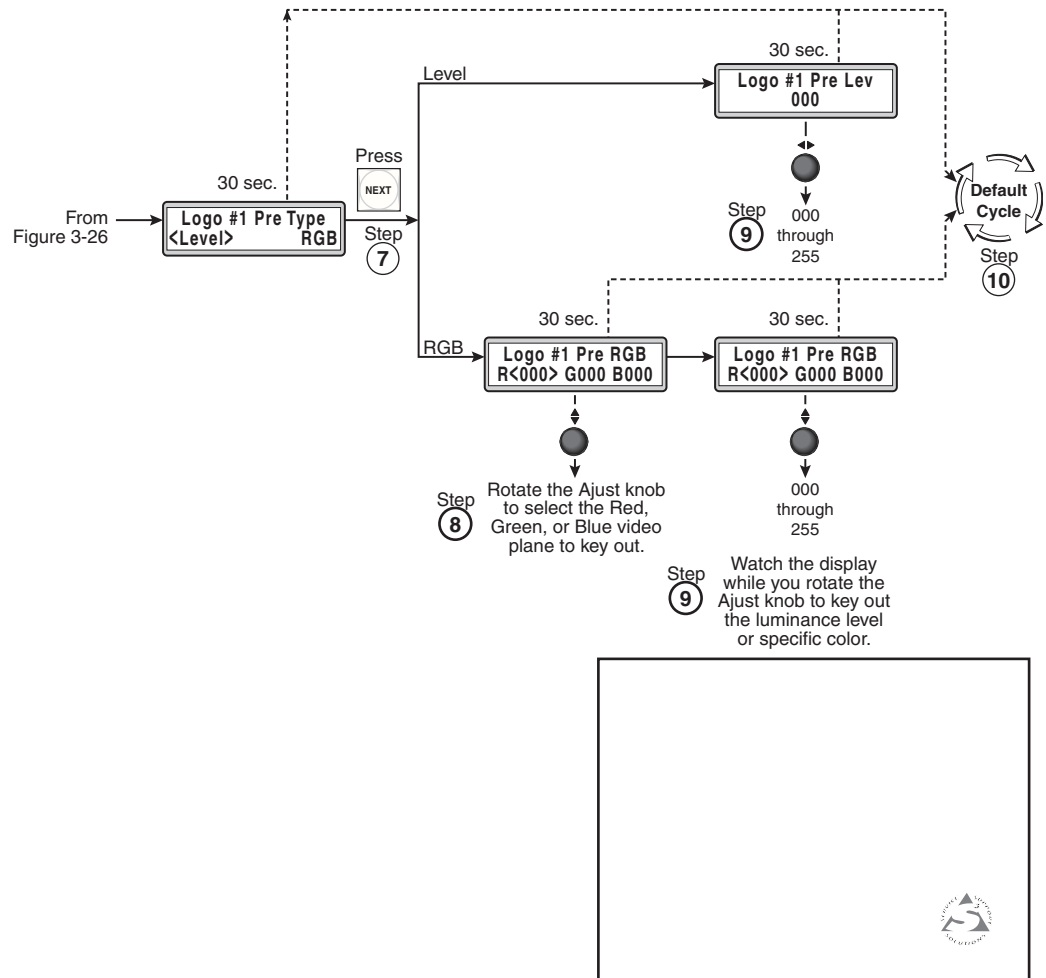

Figure 3-27 — Configuring a logo, continued
7. Press the Next button. The Key submenu appears (figure 3-27).